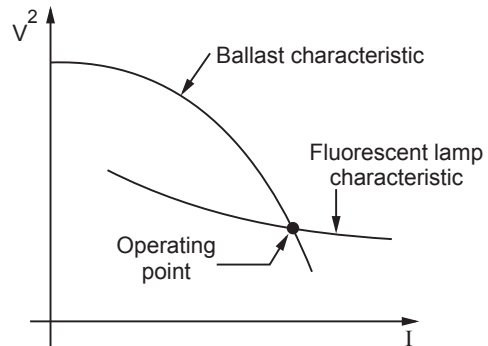

Fig. 6.3.1 Fluorescent lamp characteristic
- Fluorescent lamps have negative resistance characteristics as shown in Fig. 6.3.1. Therefore inductive ballast is used in series for stable operation. In Fig. 6.3.1 observe that when the characteristics of fluorescent lamp and inductive ballast cross each other, stable operating point is established.